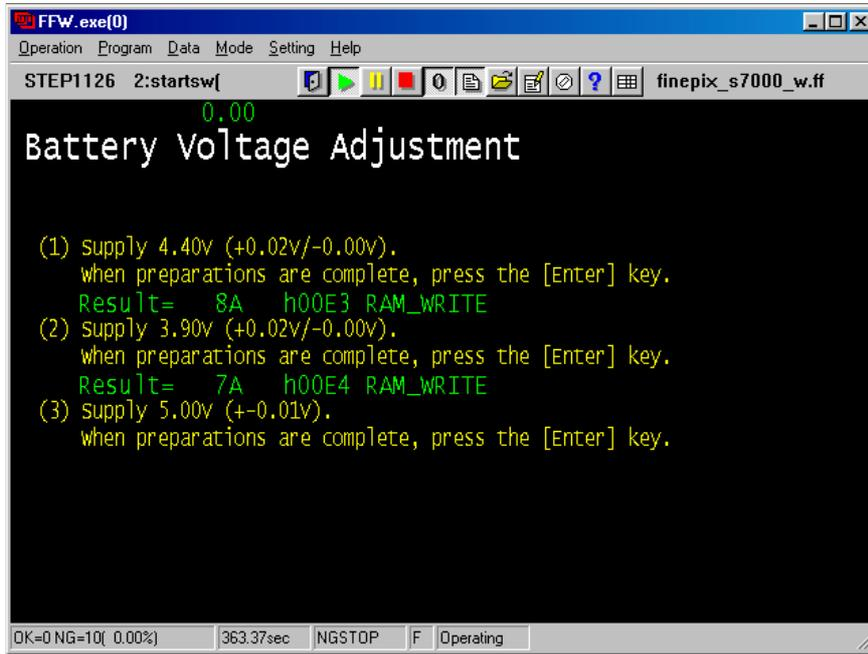

Fig.33
---> The [Battery Voltage Setting Screen 5.00V (Fig.33)] appears.
---> The [Battery Voltage Setting Complete Screen (Fig.33)] appears.